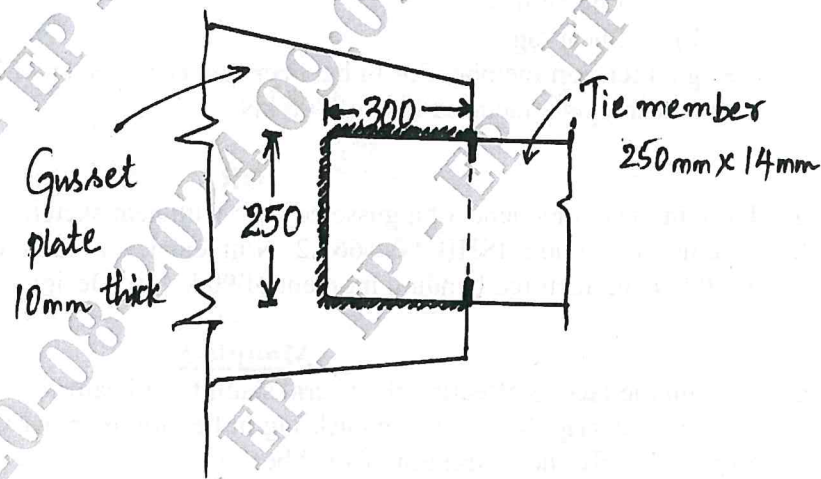

Fig. Q3 (c)
- c. A tie member in a truss girder is 250mm×14mm in size. It is welded to a 10 mm thick gusset plate by a fillet weld. The overlap of the member is 300 mm and the weld size is 6 mm. Determine the design strength of the joint, if the welding is done as shown in Fig. Q3 (c). What is the increase in strength of the joint, if welding is done allround. Assume shop welding. (08 Marks)